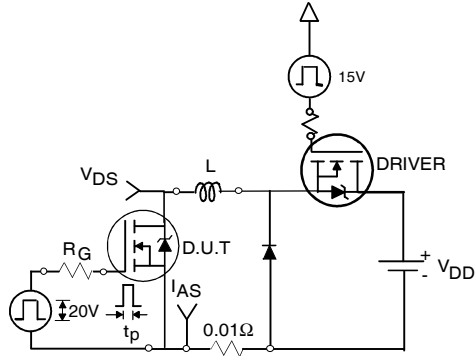

Fig 12a. Unclamped Inductive Test Circuit
- ③ $I_{SD} \leq 101A$, $di/dt \leq 210A/\mu s$, $V_{DD} \leq V_{(BR)DSS}$, $T_J \leq 175^\circ\text{C}$
- ④ Pulse width $\leq 400\mu s$; duty cycle $\leq 2\%$.
- ⑤ $C_{oss \text{ eff.}}$ is a fixed capacitance that gives the same charging time as C_{oss} while V_{DS} is rising from 0 to 80% V_{DSS} .
- ⑥ Calculated continuous current based on maximum allowable junction temperature. Package limitation current is 75A.
- ⑦ Limited by T_{Jmax} , see Fig.12a, 12b, 15, 16 for typical repetitive avalanche performance.
3. Equation below based on circuit and waveforms shown in Figures 12a, 12b.